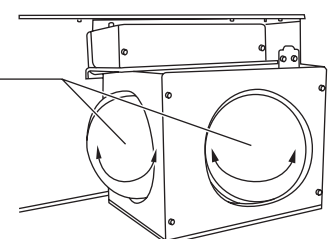

Fig. 5
- (5) Open the external air inflow hole (150mm diameter) connecting the external air ducting (see Fig.5).
Cut the joiners at left and right of the external air inflow hole with a pair of cutters and rotate the cover to open (see Fig.5).
As with intake adjustment, cut the joiners at left and right and rotate the cover repeatedly to remove (see Fig.5).